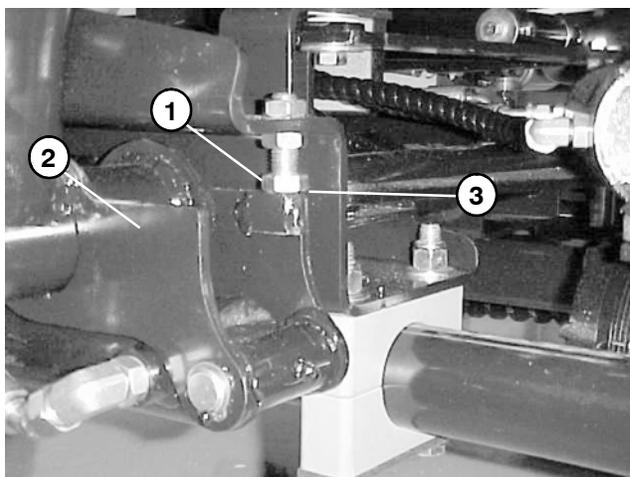

Figure 5
A. Lower front lift arms, stop engine, engage parking brake, and remove key from the ignition switch. Back off stop bolts if reducing the clearance between the lift arm and the floor plate bracket (Fig. 5).
4. With the front lift arms fully raised, make sure clearance between each lift arm and stop bolt is from **0.005 to 0.040 inch (0.13 to 1.02 mm)**. If the clearance is not in this range, adjust stop bolts as necessary (Fig 5).